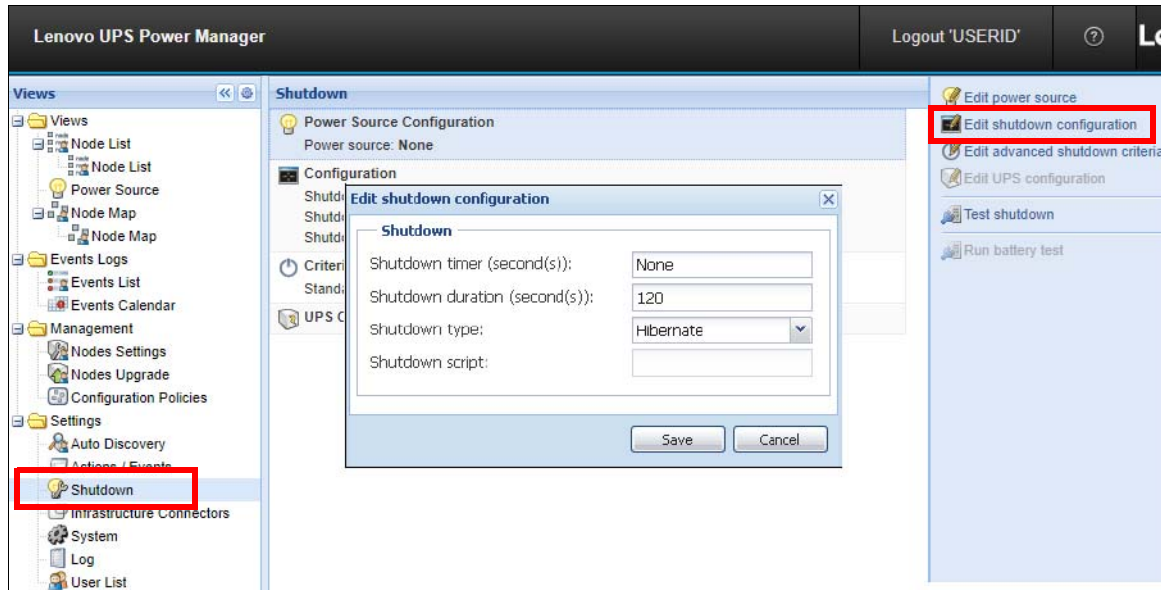

Figure 12 Configure the shutdown timers
UPP can be used to keep local critical servers up for as long as possible and shutdown local non-critical servers through editing the shutdown configuration timer settings for each locally connected node. Click on the **Shutdown > Edit shutdown configuration** as shown in Figure 12.
- ▶ When the shutdown time (if configured) has been reached (refer to Figure 12 on page 22). This is especially good to implement so that non-critical workloads can be shutdown